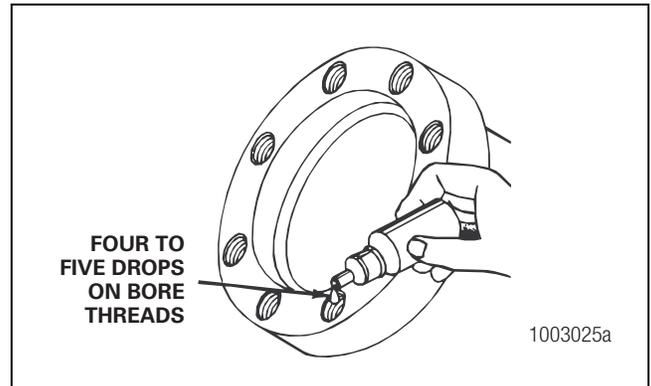

Figure 4.9
2. Apply four or five drops of Meritor liquid adhesive 2297-C-7049, Loctite[®] 638 or 680 liquid adhesive or equivalent inside each threaded hole or bore. Do not apply adhesive directly to the fastener threads. Figure 4.9.